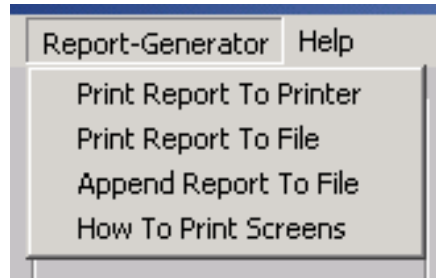

Figure 3-18 Tutorial Report Generator Pulldown Menu
63. Access the hardcopy report generator by clicking on **Report Generator** in the menu bar. The pulldown menu shown in Figure 3-18 will appear.